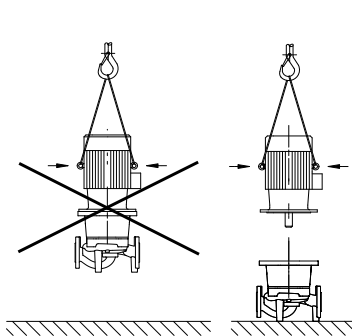

Fig. 6: Transporting the motor (schematic diagram)
- If transport eyes are attached to the motor, they are only approved for transporting the motor, not the complete pump (fig. 6).